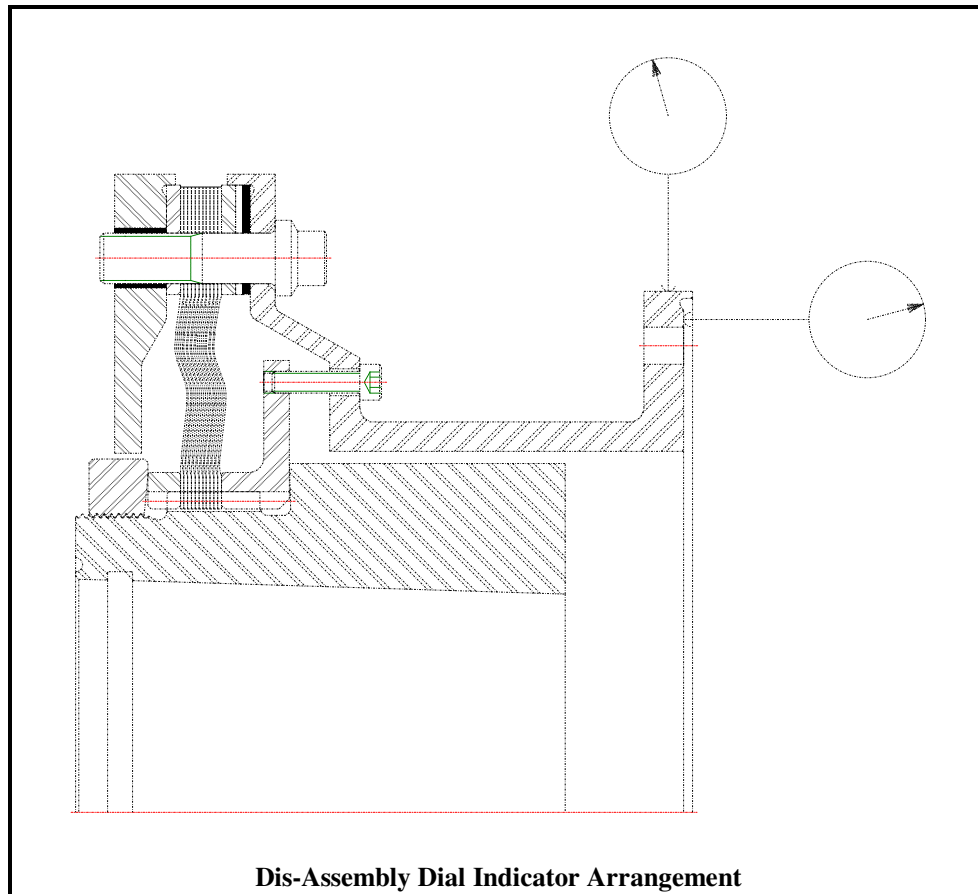

Figure 5-2
- 5.2.4 Place a dial indicator on the spacer connecting flange of the pack adapter and loosen the shipping hardware screws as needed to achieve a pack runout of less than .001 IN. (4) places at 90° apart on the pack adapter flange O.D. and face (see Figure 5-2).